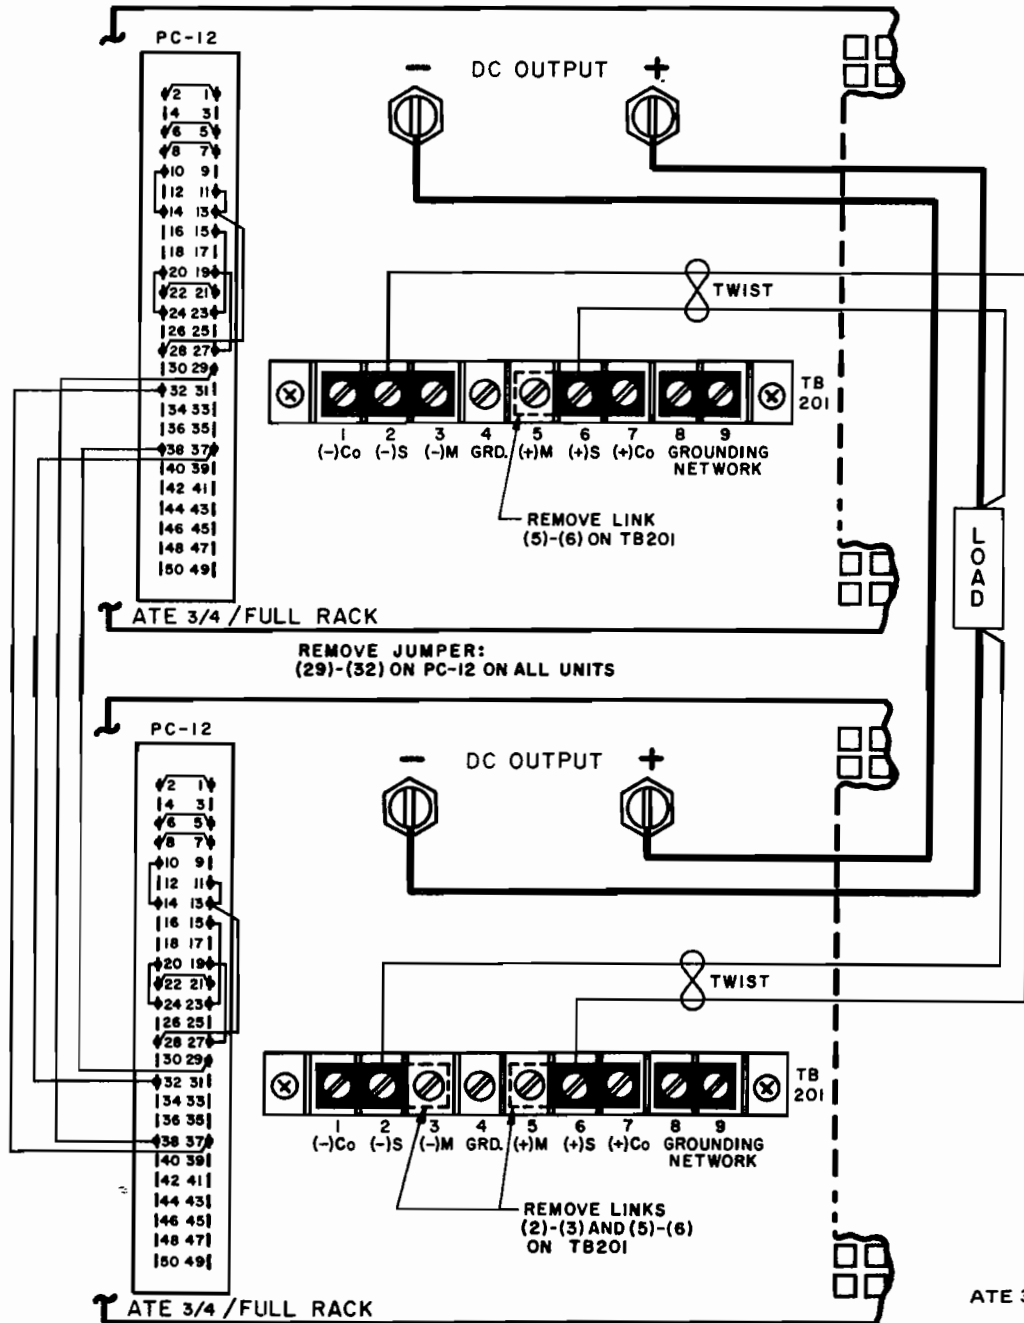

FIG. 3-20 AUTOMATIC SERIES CONNECTION
- 3) Use error sensing, as shown in the diagram (See FIG. 3-20), to compensate for load wire drops.
- 3) Make all load connections as shown in the diagram (refer to FIG. 3-20).